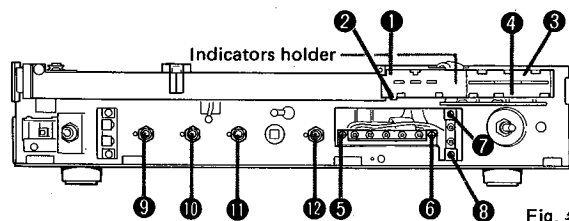

Fig. 4
2. Remove the indicators holder hooks 1 to 4 in Fig. 4 and then remove the indicators holder.
4. Remove the screws 5 and 6 Fig. 4 and then remove the tape monitor & function selector switches P.C. board.
2. Remove the screws 7 and 8 in Fig. 4 and then remove the fm muting & audio mode switches P.C. board.
5. Remove the hexagonal nuts 9 to 12 in Fig. 4.